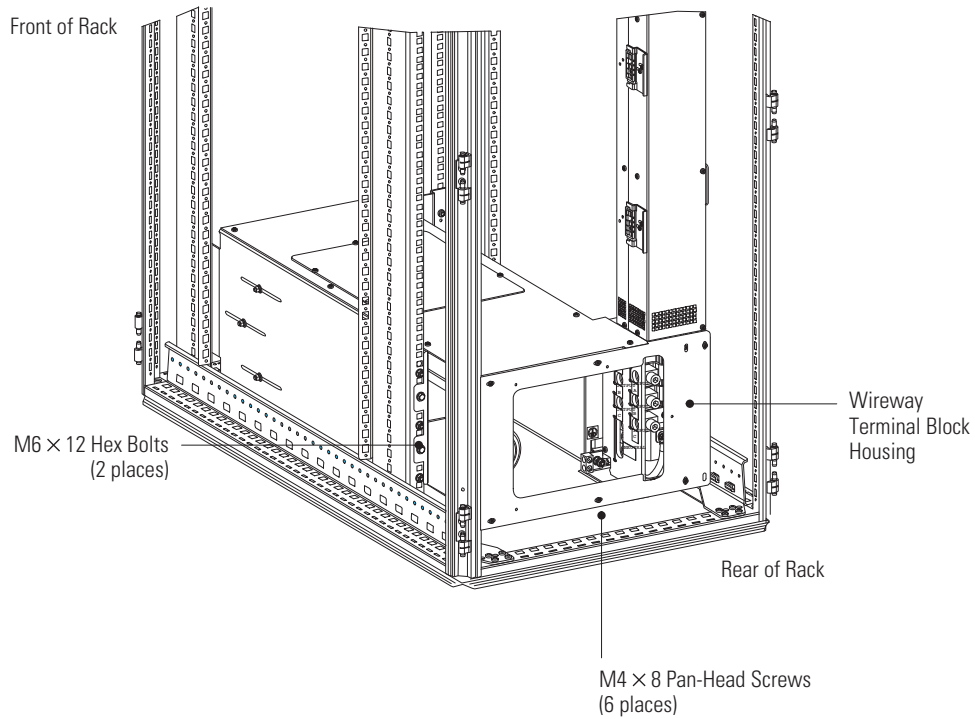

Figure 7. Wireway Terminal Block Housing Installation
19. Using two M6 x 12 hex bolts, secure the left side of the wireway terminal block housing to the rack. See Figure 7. Torque the bolts to 5.1 ± 0.8 Nm (45 ± 7 lb in).
20. Using six M4 x 8 pan-head screws, secure the wireway terminal block housing to the wireway and to the bar. See Figure 7. Torque the screws to 1.7 ± 0.2 Nm (15 ± 2 lb in).